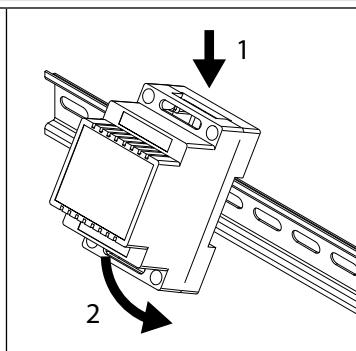
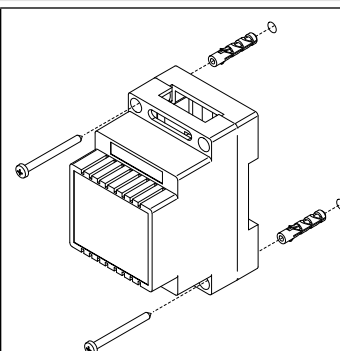

Fig. 4
Fig. 5
2. Fix the power supply to a DIN rail (**Fig. 4**) or directly to the wall using two expansion type screws (**Fig. 5**);